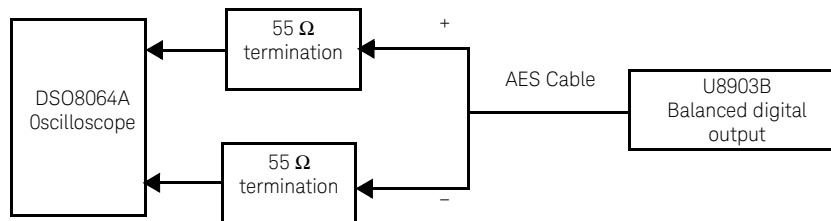

Figure 4-2 DSO8064A oscilloscope to U8903B balanced digital output for balanced output level accuracy verification
- 1 Connect the Keysight DSO8064A oscilloscope input channel 1 and 2 to the U8903B balanced digital output channel with the 55 Ω termination using the XLR female to two BNC male AES cable with separated + and – output lines as shown in **Figure 4-2**.